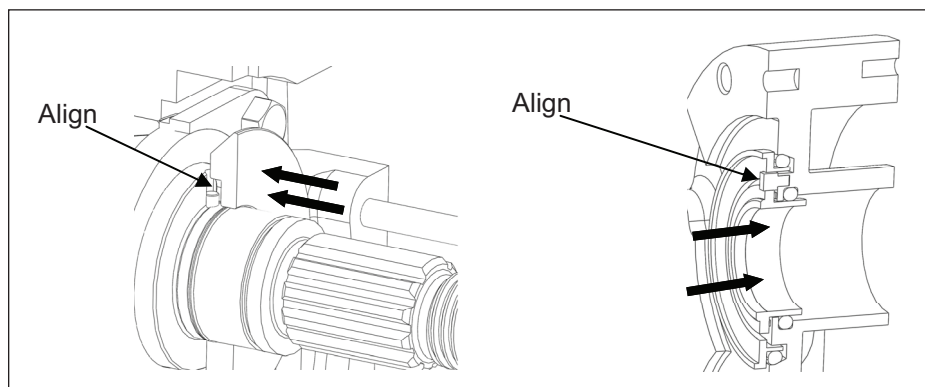

Figure 36. Double Mechanical Seal Assembly
**Assembly:** Clean both shaft ends and the body before assembling. Apply a light film of lubricant to NEW o-rings and insert them on the shafts (slot furthest from splines), into the body and on to the outer seals. Slide the rotating seal onto shaft pushing against the shaft shoulder making sure to align the slot on the seal to the drive pin on the shaft (Figure 36). Place the wave